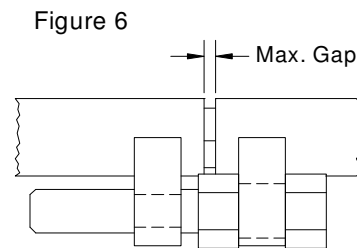

Figure 6
- Step 5:** Begin tightening the bolt. Downward pressure on the cover will assist the closing process. It will be necessary to hammer the circumference of the bolt ring with a rubber mallet while torquing the bolt in order to further seat the cover onto the drum. Continue torquing and hammering the ring until the ends of the ring reach the maximum gap shown in the chart below. The ring ends should not touch and the ring must be in a fixed position. The lock nut must be tightened against the un-threaded lug. (Fig. 6)